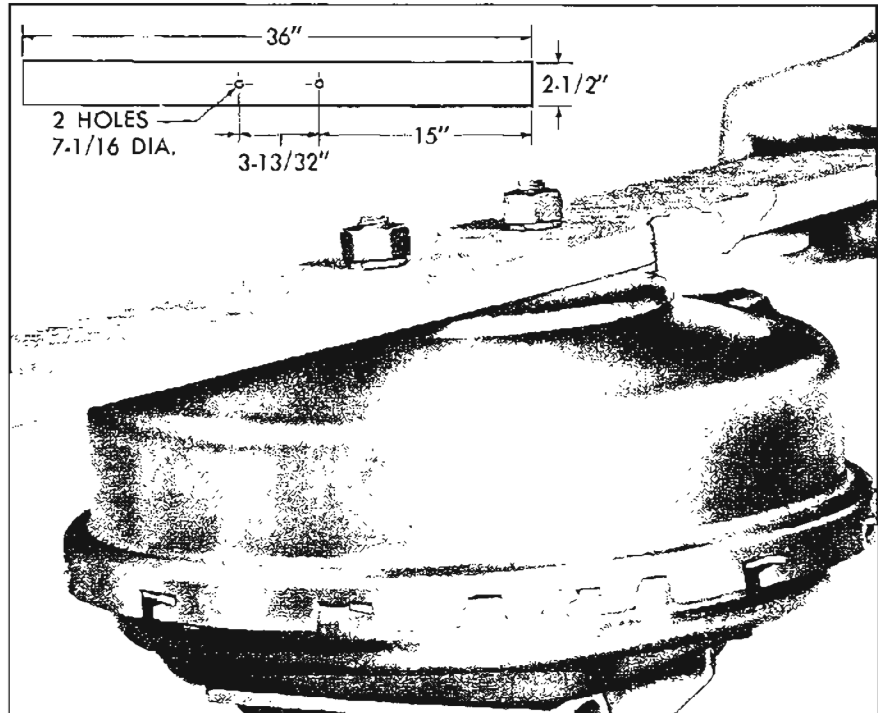

Figure 9-20—Removing Housing with Wooden Lever
**NOTE:** Wooden lever for removing housing may be made using dimensions given in Figure 9-20.